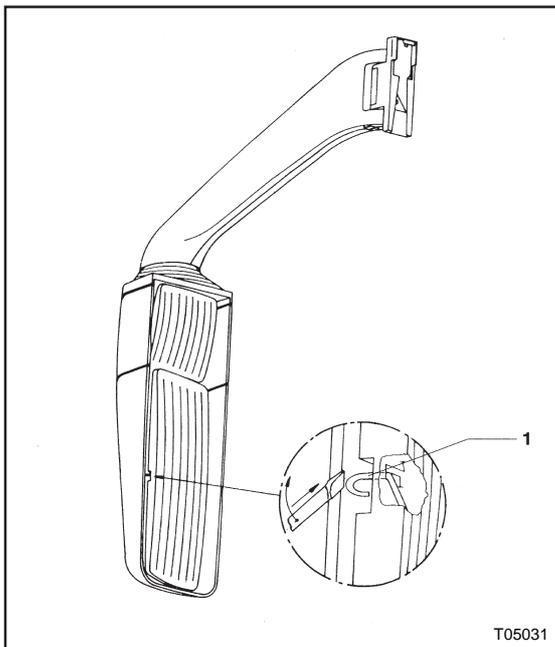

Figure 6: Flat-type mirror glass removal
4. Slip a screwdriver into the gap between the mirror head casing and the mirror glass assembly (see Figure 6).
5. Release the mirror glass assembly from the control mechanism by prying the eye of the snap ring off its seat (1, Figure 6).
1. Check that the snap ring of the new mirror glass assembly is properly seated. If necessary engage eye (1, Figure 6) using a screwdriver or needle nose pliers.